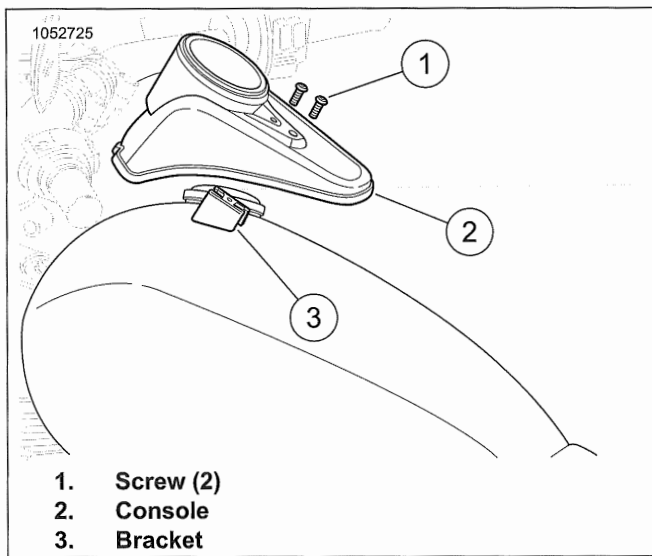
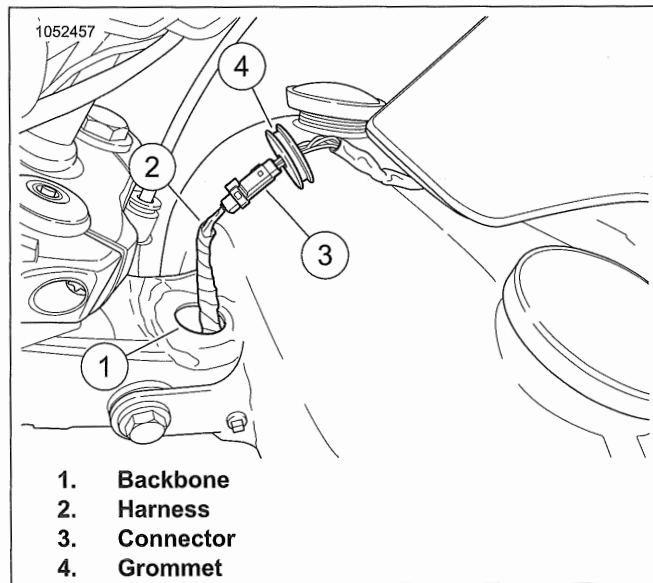

Figure 6-7. Console
Figure 6-8. Console Harness
1. See Figure 6-7. Detach console.
- a. Remove screws (1).
- b. Move console (2) rearward.
2. See Figure 6-8. Disconnect connector.
- a. Remove grommet (4) from backbone (1).
- b. Pull harness (2) from backbone.
1. See Figure 6-8. Connect connector.
- a. Connect connector (3).
- b. Feed harness (2) into backbone (1).
- c. Seat grommet (4) into backbone.
2. See Figure 6-7. Install console.
- a. Align console (2) with bracket (3).
- b. Install screws (1). Tighten.